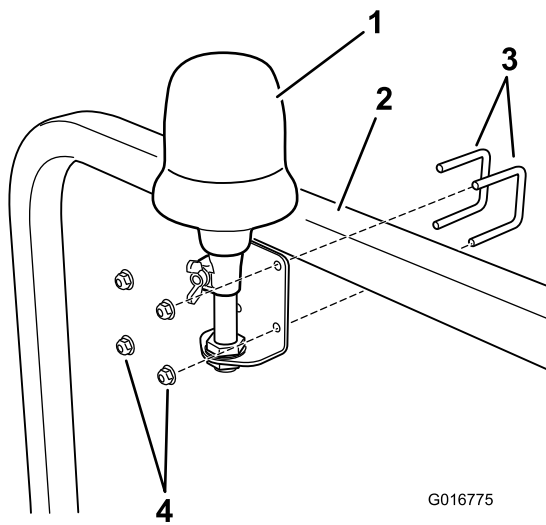

Figure 3
3. Install the beacon bracket to the ROPS bar securely with the 2 U-bolts and 4 locknuts provided (Figure 3).